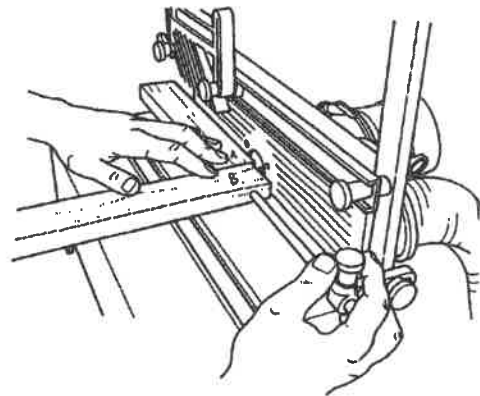

Fig. D-14
6. Place workpiece "B" against the end of workpiece "A", as in Fig. D-14, and put the stop rod against workpiece "B". Tighten the stop rod knob.